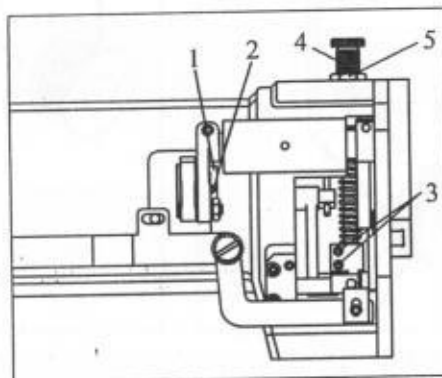

Fig 9
- Loosen the screw 2 of the eccentric gear 1(Fig 9).